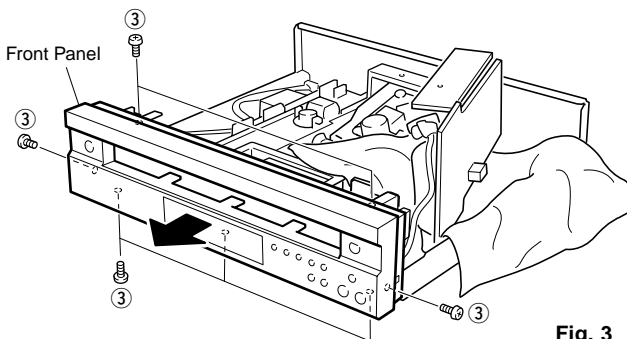

Fig. 3
- h. Remove 7 screws ( ③ ) as shown in Fig. 3.